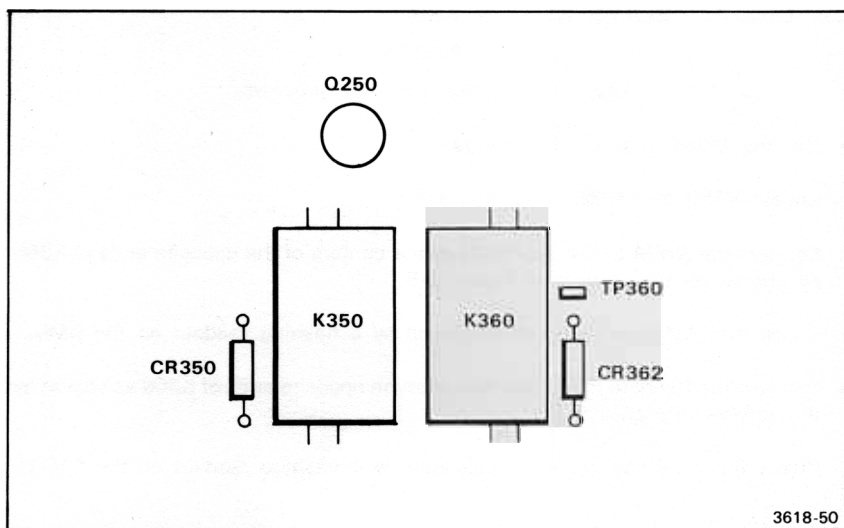

Figure 5-4. Location of CR350 and CR362
- b. Locate CR350 and CR362. See Figure 5-4.